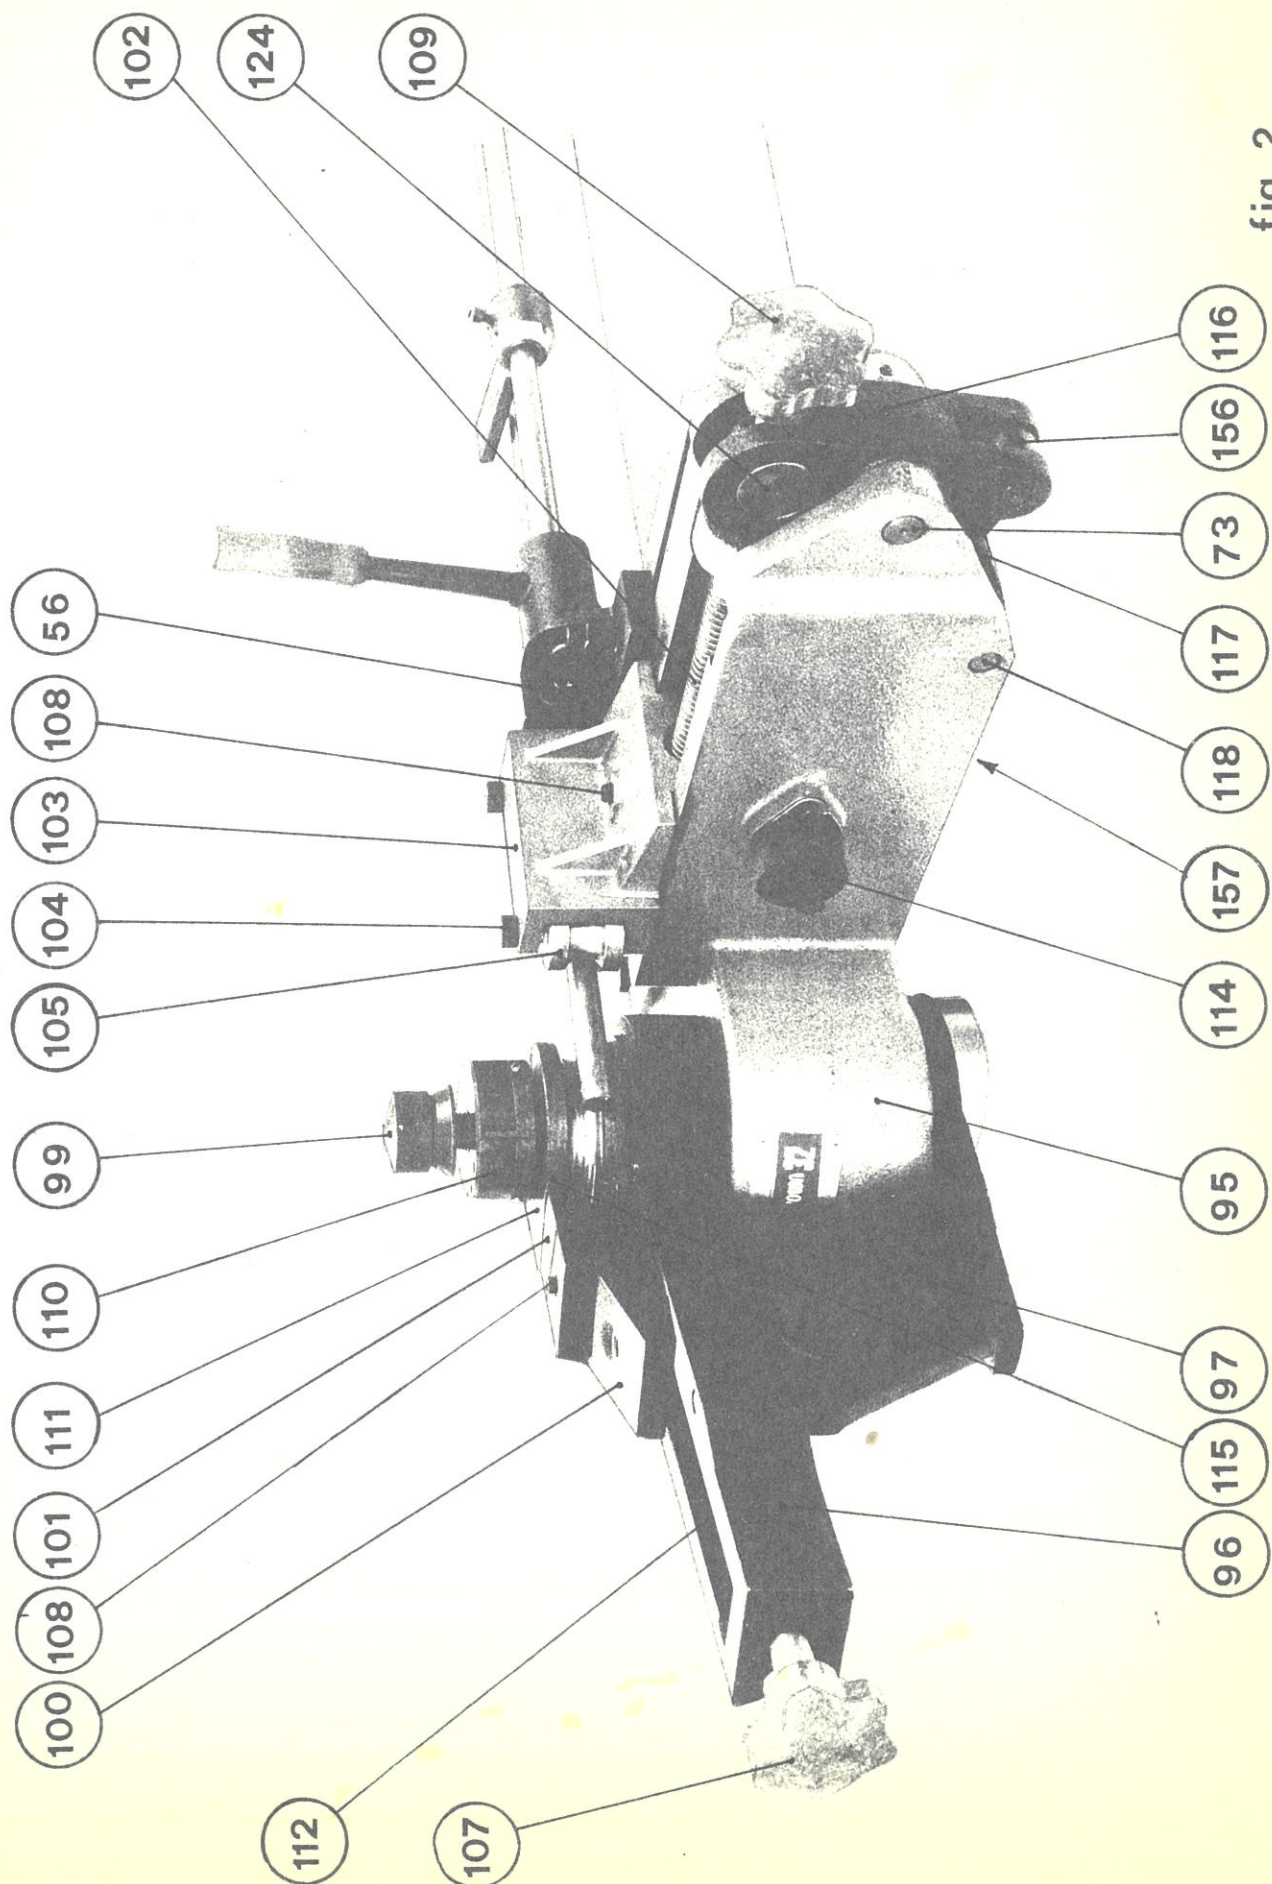
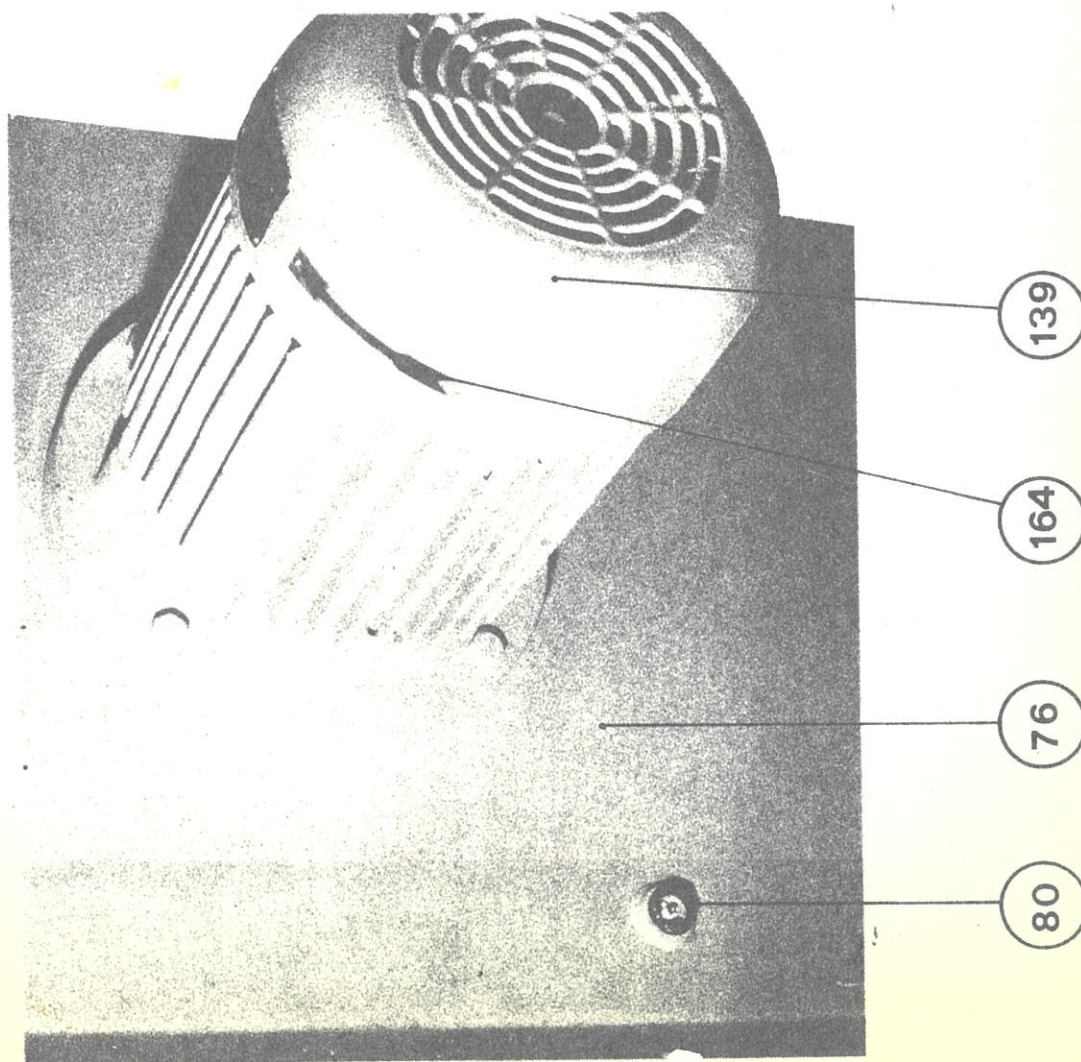

fig. 2
fig. 3
- remove the threaded plug (99, fig. 2).
- place the die (111) on the drive shaft (98) and hook on the rope (118), with the counterweight (116).
Assemble the clamp jaw (101, fig. 2) on the carriage (100).
- Press the A.R. pedal fully down (89) and bring the die turning arm to 0° position, making sure that the clamp carriage is fully open (100 Fig. 2).
- Loosen screw (108). Insert the gauge (115) between the clamp jaw (101), the rollers (105) and the die, as shown in Fig. 2.
- Turn the hand^{wheel} (107) and bring the clamp jaw (101) and the pipe guide rollers (105) in light contact with this gauge, then tighten the screw (108) to prevent movement during work.
- Set the programmer and test run the machine before starting work. For this operation, disengage the handle (43) by pulling outwards and inserting it into n° 8 on the disc (39 Fig. 3).
Install the die on the machine (111 fig. 2), together with the clamp jaw (101, fig. 2), the pipe guide rollers (105, fig. 2) and a core of the appropriate size for the pipe.